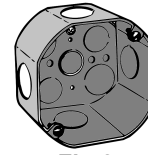

Fig.2
1. Put the power cord inside your outlet box (Fig.2) in the installation position.